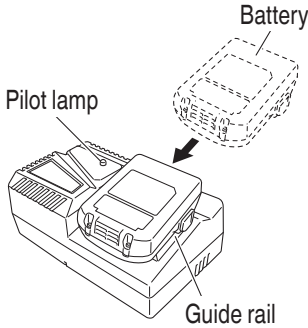

Fig. 7
2. Insert the battery to the battery charger. Firmly Insert the battery into the battery charger as shown in Fig. 7.